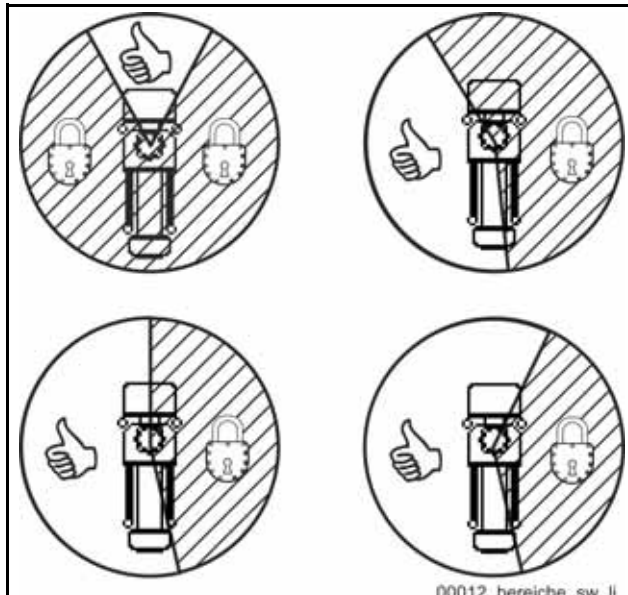

Fig. 559 Secure areas (not dashed)
- If necessary, first move the placing boom back to the secure (supported) area (example: (**Fig. 559**)) using the emergency operation control levers.